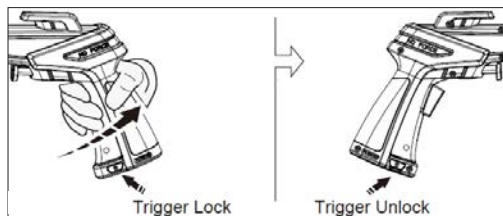

Fig.11
- To lock the trigger of the spray gun, make sure power is off (0)
- Aim the spray gun away from you and push the lock button up, (Fig. 11)